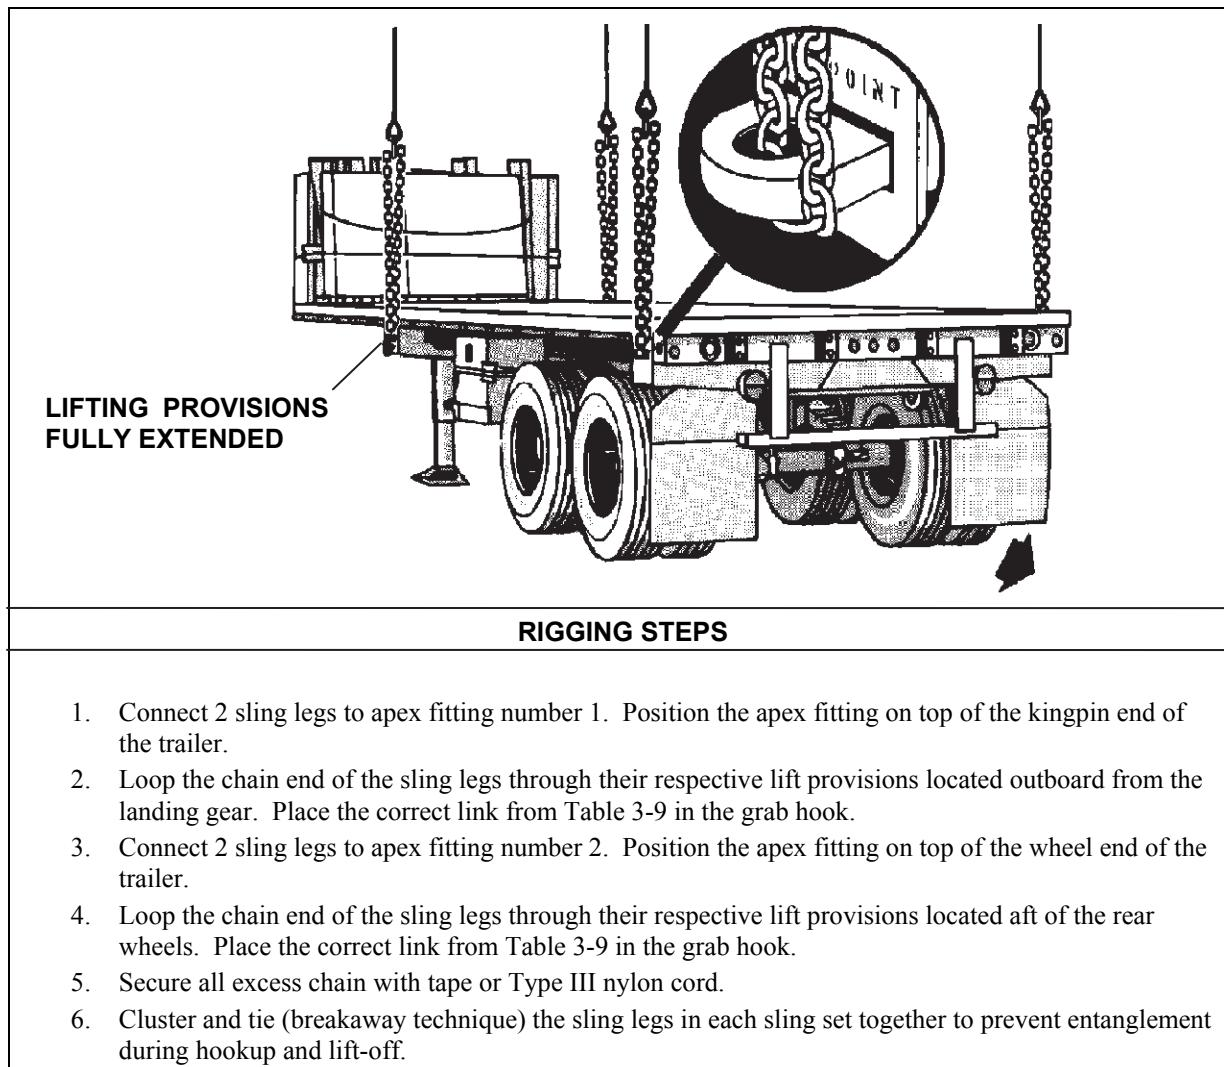

Figure 3-9. M871A1 Semitrailer
- **Rigging.** Rig the load according to the steps in Figure 3-9.